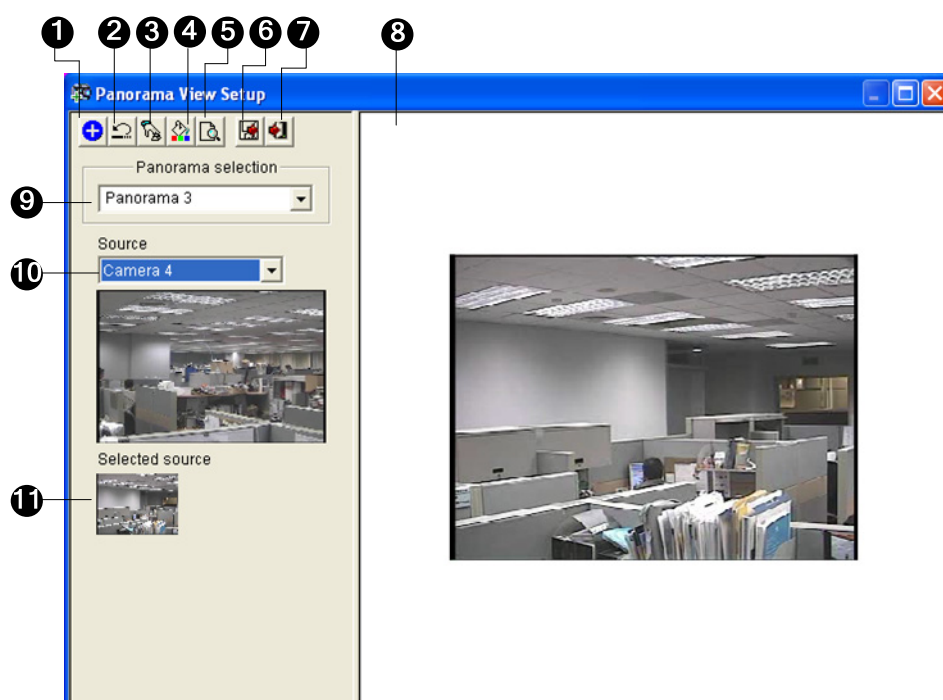

Figure 3-42
1. Select one panorama set (No. 9, Figure 3-42) from the drop-down list. If you want to rename the selected panorama set, type the name in the field.
2. Select one camera from the Source drop-down list (No. 10, Figure 3-42) and then click **Manual Setting** (No.3, Figure 3-42). This dialog box appears.
8. When you finish stitching images, click the **Save Before Exit** button (No.6, Figure 3-42) to save the created panorama view before exiting the Panorama View Setup dialog box.